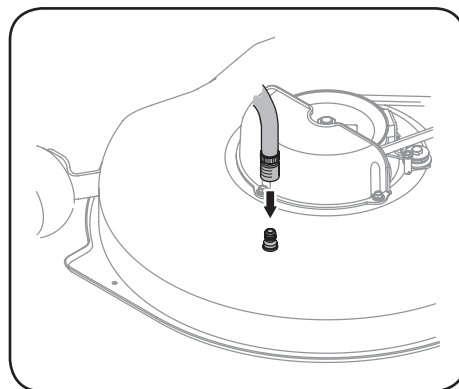

Figure 4-4
4. Attach the hose coupler to the water port on the deck's surface. See Figure 4-4.